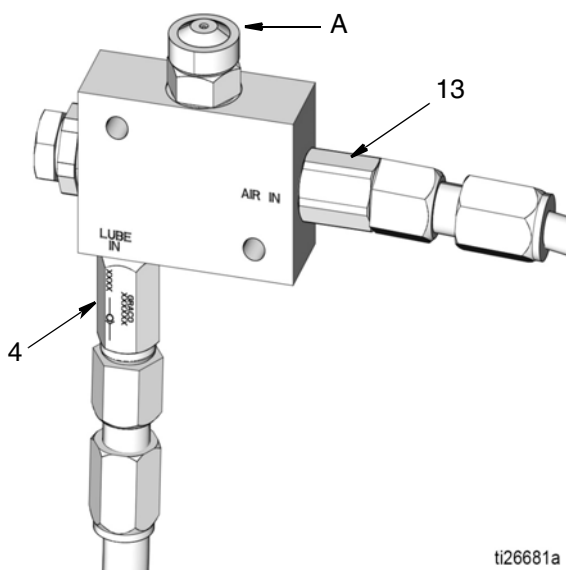

FIG. 1
Connect the air supply hose to the AIR IN inlet fitting (13) and the lubricant supply hose to the LUBE IN check valve (4) (FIG. 1).